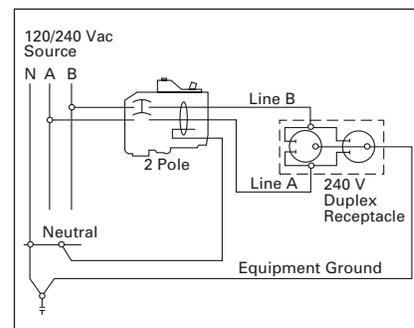

Figure 26.2-4. 2-Pole 240 Volt Load Application Sourced by 120/240 Vac
① Common trip refers to 2-pole 240 volt load application sourced by 120/240 Vac (see Figure 26.2-4).